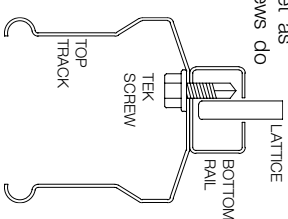

Fig. 7
7. Secure the bottom fence extension rail to the top fence track using clamps as shown in Fig. 7, ensuring that the fence extension rail is centred. Attach using the 3 Tek screws supplied in the kit, one near each end and one in the middle. Screws must be pointing up and offset to one side of the fence extension rail so that they will not interfere with the lattice.